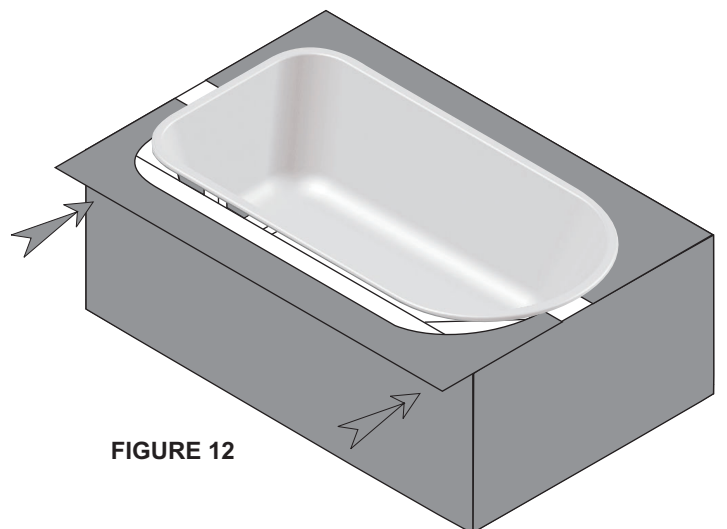

FIGURE 12
- Slide in the other half of the board under the tub flange as in figure 12.